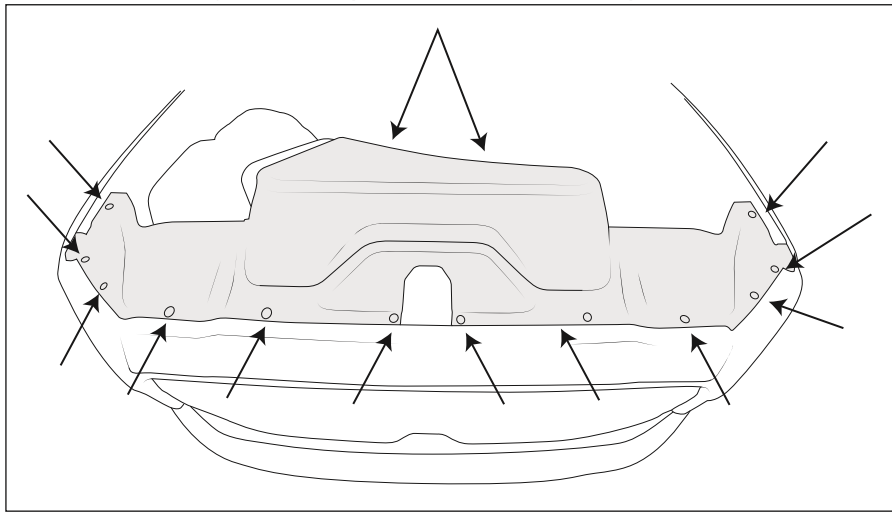

Figure 1
2. Remove the radiator cover by removing the 14 push clips (fig. 1).
1. Remove factory air dam (fig. 1):